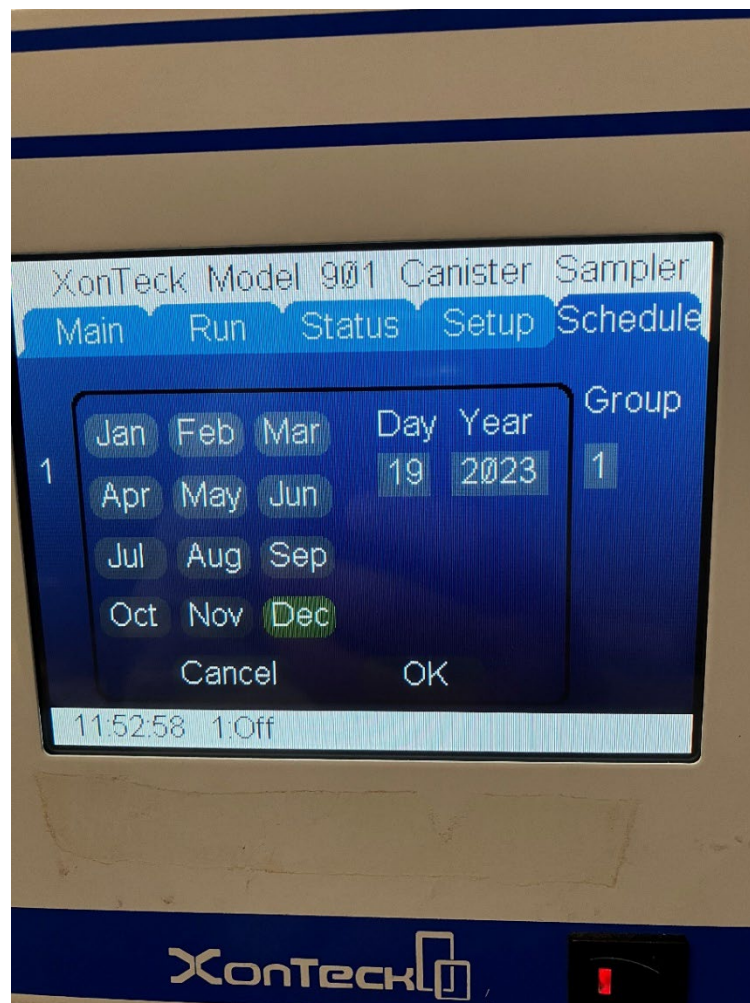

Figure 11. Month, day, and year selection screen from the Schedule tab. The month highlighted in green indicates the selected month.
- 3.3.9.4 On the Schedule screen (Figure 11), select the DATE button. Select the current MONTH. Set the DAY, YEAR, and TIME to the desired sampling date and start time. Select DURATION and enter the desired sampling duration in HH:MM format (i.e., 24:00 for a 24-hour sample).